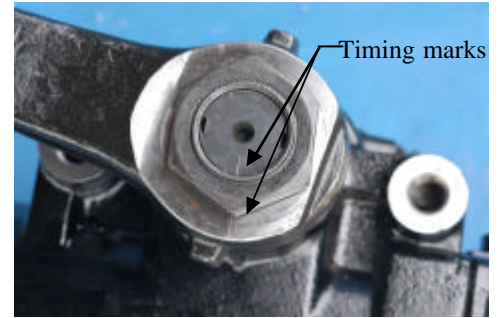

Figure 4
2. To position the sector shaft (42) on centre of travel for this adjustment, rotate steering wheel (input shaft, valve worm assembly) until the timing mark across the end of the sector shaft is perpendicular to-the input shaft, valve worm assembly and in line timing mark on the end of housing (31) trunnion. SEE FIGURE 4.